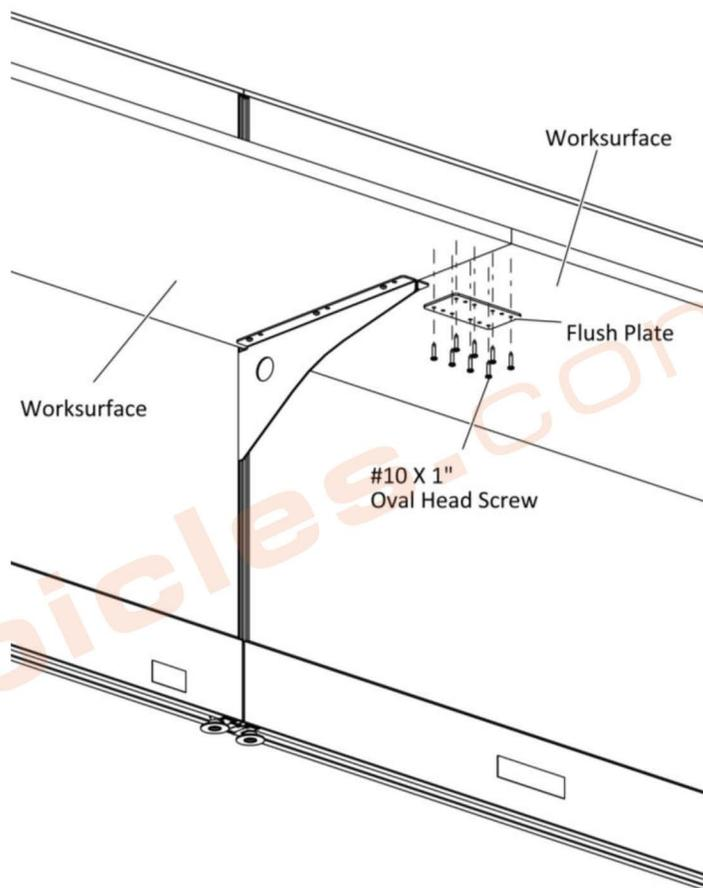

Figure 1
2. Attach the flush plate to the worksurface with #10 X 1" Oval Head Screws, (Figure 1).